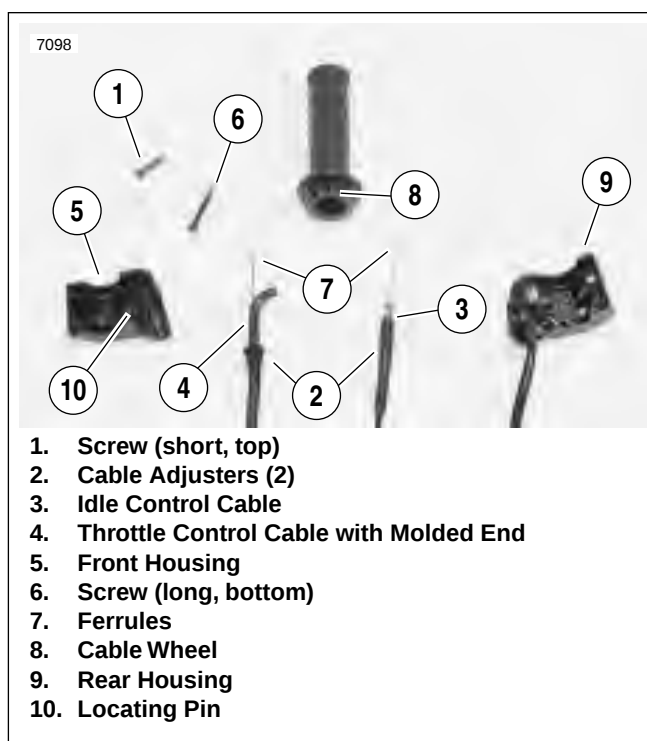
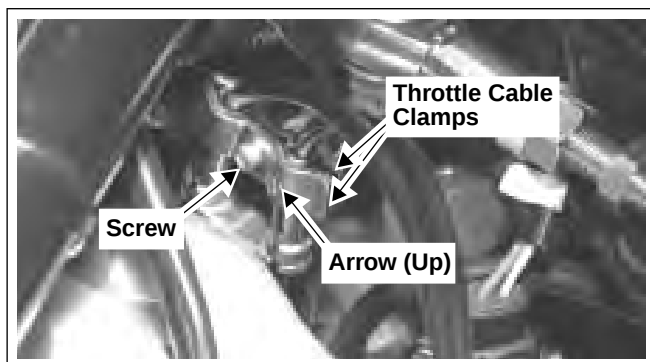

Figure 2-82. Cable Connections
Figure 2-80. Throttle Cable Clamps
2. See Figure 2-82. Remove two screws (1, 6) on front housing. Separate housings from handlebar.
3. Unhook ferrules (7) from cable wheel (8).
7. See Figure 2-80. Remove screw and throttle cable clamps from cables by throttle body.
1. See Figure 2-82. Place cable assemblies (3, 4) into housings (5, 9). Throttle control cable (4) has a molded fitting end and is positioned inside the front housing (5). Idle control cable (3) has a smaller fitting end and is positioned inside the rear housing (9).
3. Attach ferrules (7) to cable wheel (8). When properly assembled, notches for ferrules will be at 12 o'clock.
4. Position housings on right handlebar by engaging locating pin (10) on front housing with hole in handlebar. Attach housings with two screws (1, 6), installing longer screw on bottom. Tighten to 12-17 **in-lbs** (1-2 Nm).
6. See Figure 2-80. Attach throttle cable clamp to ferrules with screw (arrow on clamp points up).